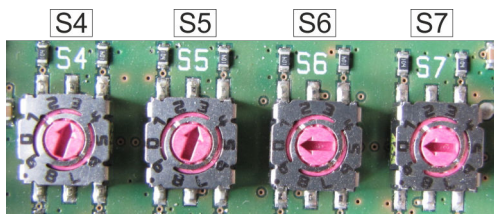

Fig. 52: Configuration
4. ➤ Configure the system with addresses (Fig. 52).